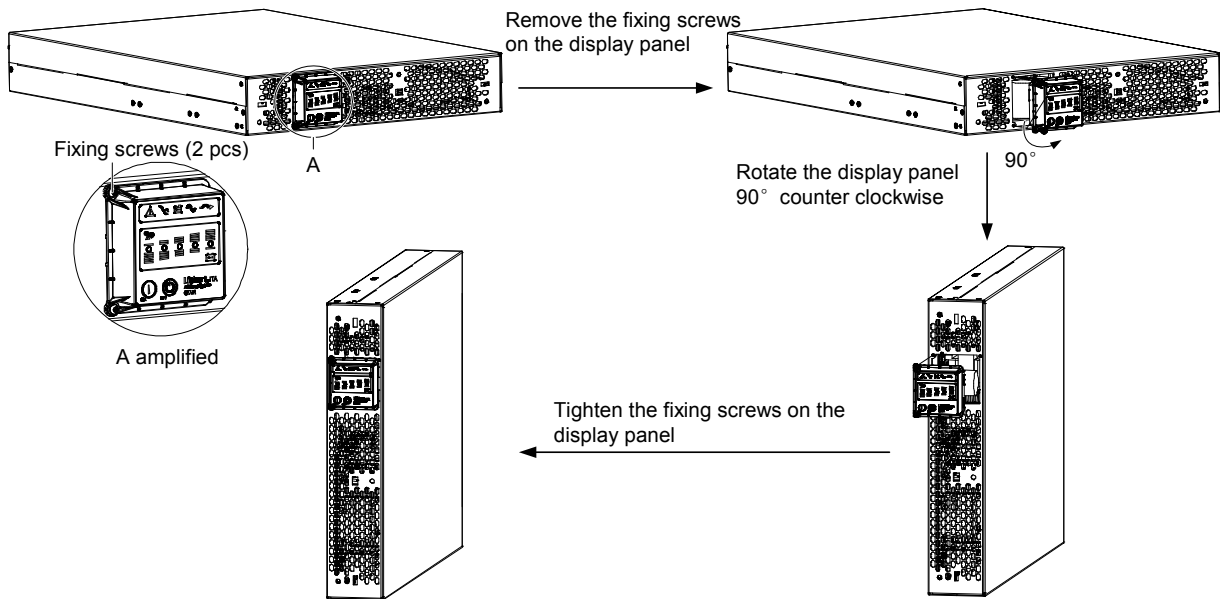

Figure 2-7 Adjusting the display panel
5. Place the UPS and battery module (if applicable) on the support bases and support base extensions. Each UPS needs four support bases to install, as shown in Figure 2-7.